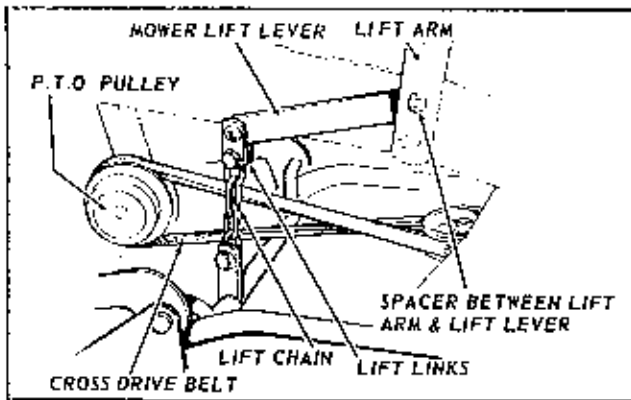

FIGURE 3
3. Place the tractor lift lever in its rear position and attach the mower lift lever to the tractor lift arm on right hand side of tractor as shown in Figure 3. Use hex capscrow, flatwashers, and hex nut furnished for this purpose.
4. Connect the mower lift chain to the lift lever by fastening the lift links in place with a pin and hair pin cotter as shown in Figure 3.
5. Place the cross drive belt in position on the mower drive pulley. Give the belt a 90° twist towards the left hand side of the tractor and mount belt to larger pulley of power take-offs as shown in figure 3. When installed in proper manner, the belt should run from the left side of mower pulley to bottom side of power take-off pulley.